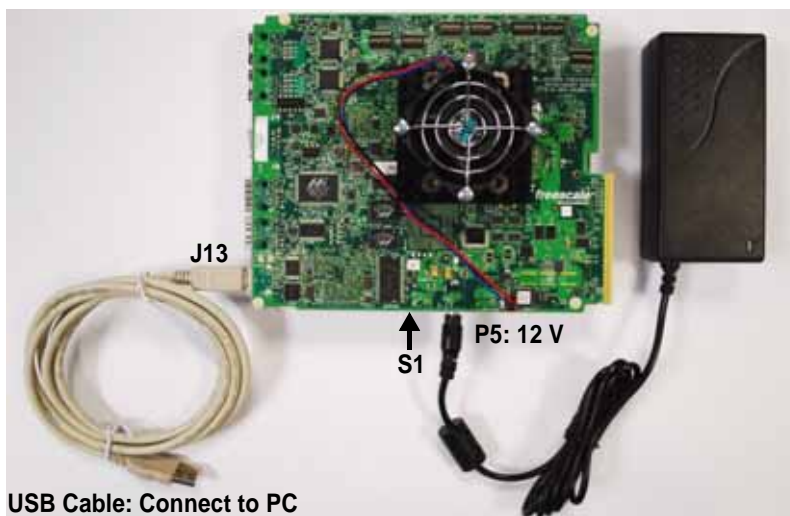

Figure 7. Power Supply Assembly
4. Assemble and connect the 12 V power supply (see Figure 7) using the following steps: